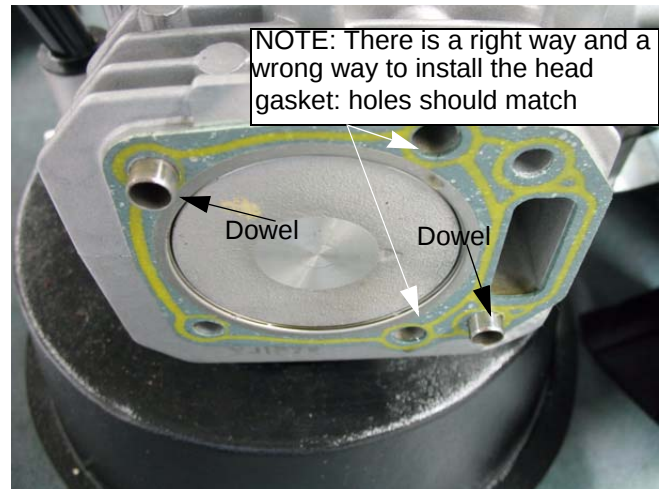

Figure 12.15
12.15. Position new cylinder head gasket and dowels on engine block. See Figure 12.15.